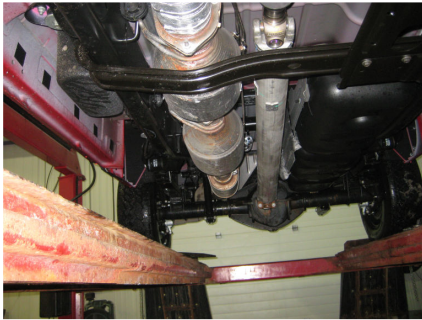

Figure 1
1. Remove the particulate filter and exhaust, be sure to disconnect sensors and lines before lowering. Removing the filter will require two people. **Refer to Figure 1.**